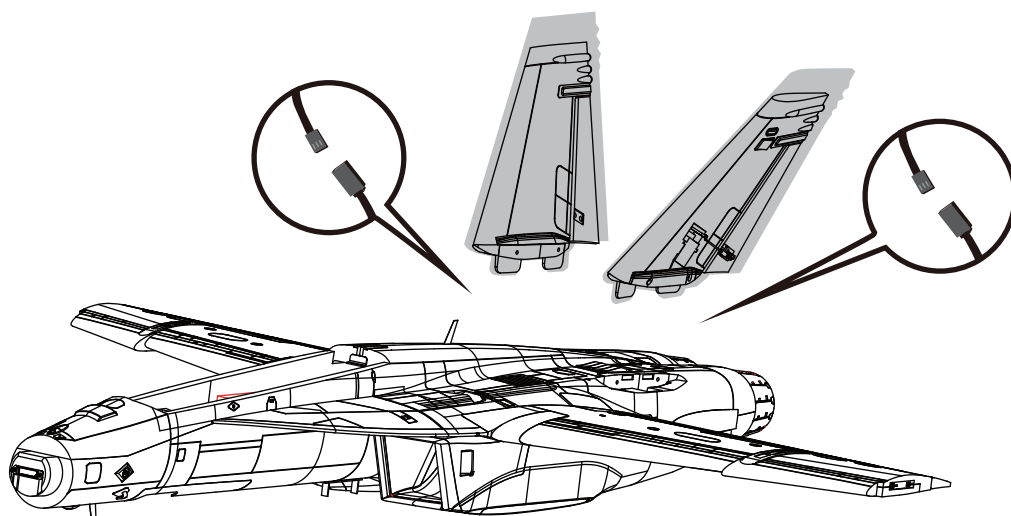

fig4
2. Slide the vertical tail into the slot in the fuselage. (fig4)